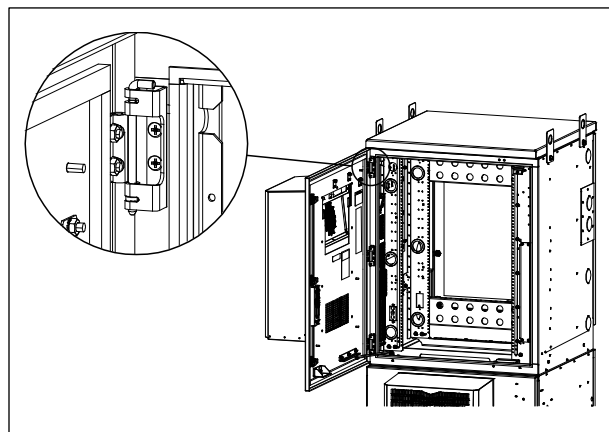

Figure 5 Mount New Front Door
7. Lift the kit door and hold in position on the CUBE, ensuring that the hinge plates on the kit door align with the hinge bases on the CUBE. Insert the hinge pins through the top of the hinge and secure the pins using the retainer clips (Figure 5).